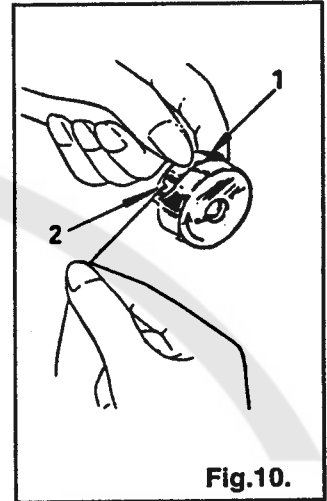

Fig.10.
3. Draw thread out from slot (2) on end of spring (1), Fig.10 and pass it through bobbin case thread guide (1), Fig.11. Allow about 4 inches of thread to hang freely from bobbin.